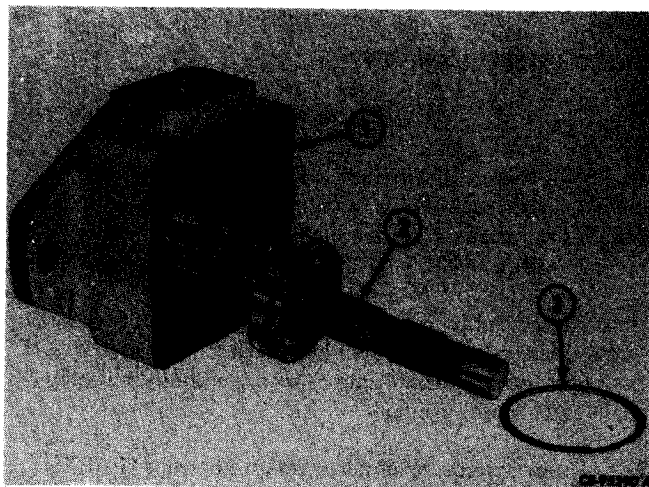

Figure 11-21
Remove snap ring (3, Fig. 11-21). Remove shaft with bearing (2) from body (1).
Install shaft with bearing (2, Fig. 11-21) in body (1) and secure with ring (3).